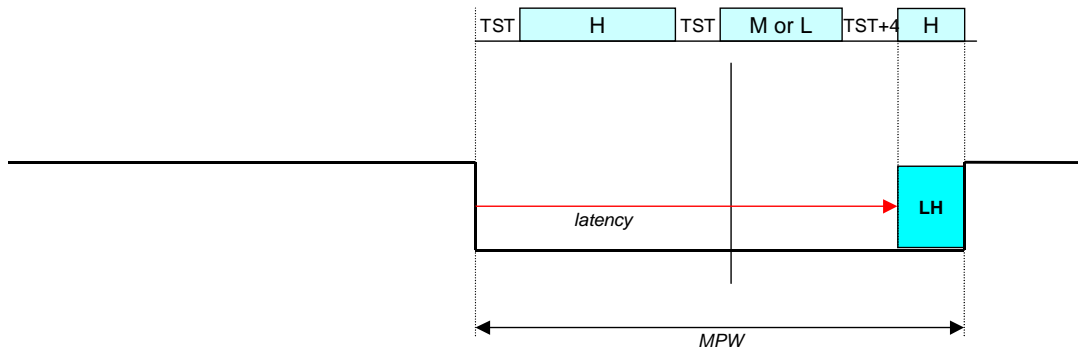

Figure 7. Worst case timing
In this instance, the worst case timing case that can happen is illustrated in **Figure 7**.
- Calculate *MPW* according to **Figure 7**.